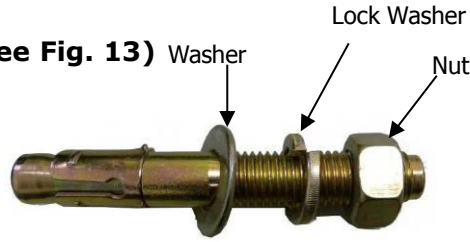

Fig.13
1. Prepare the anchor bolts (**See Fig. 13**)